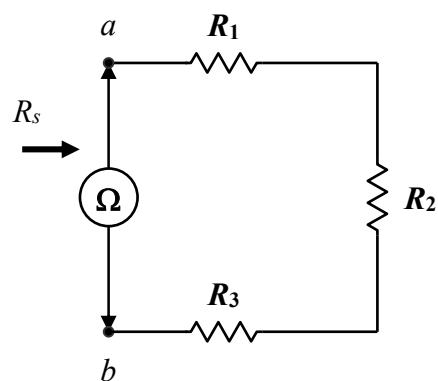

Figure 2.3e
13. Measure the resistance R_s between Nodes *a* and *b* (**Figure 2.3e**). Record the value as $R_{s,m}$ at the bottom left of **Table 2-1**.